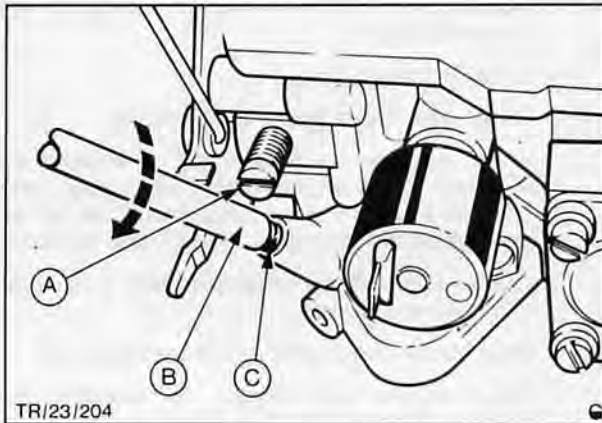

Fig. 31. Plug removal
7. Using remover, Fig 20, detach tamperproof plug as follows, Fig. 31.